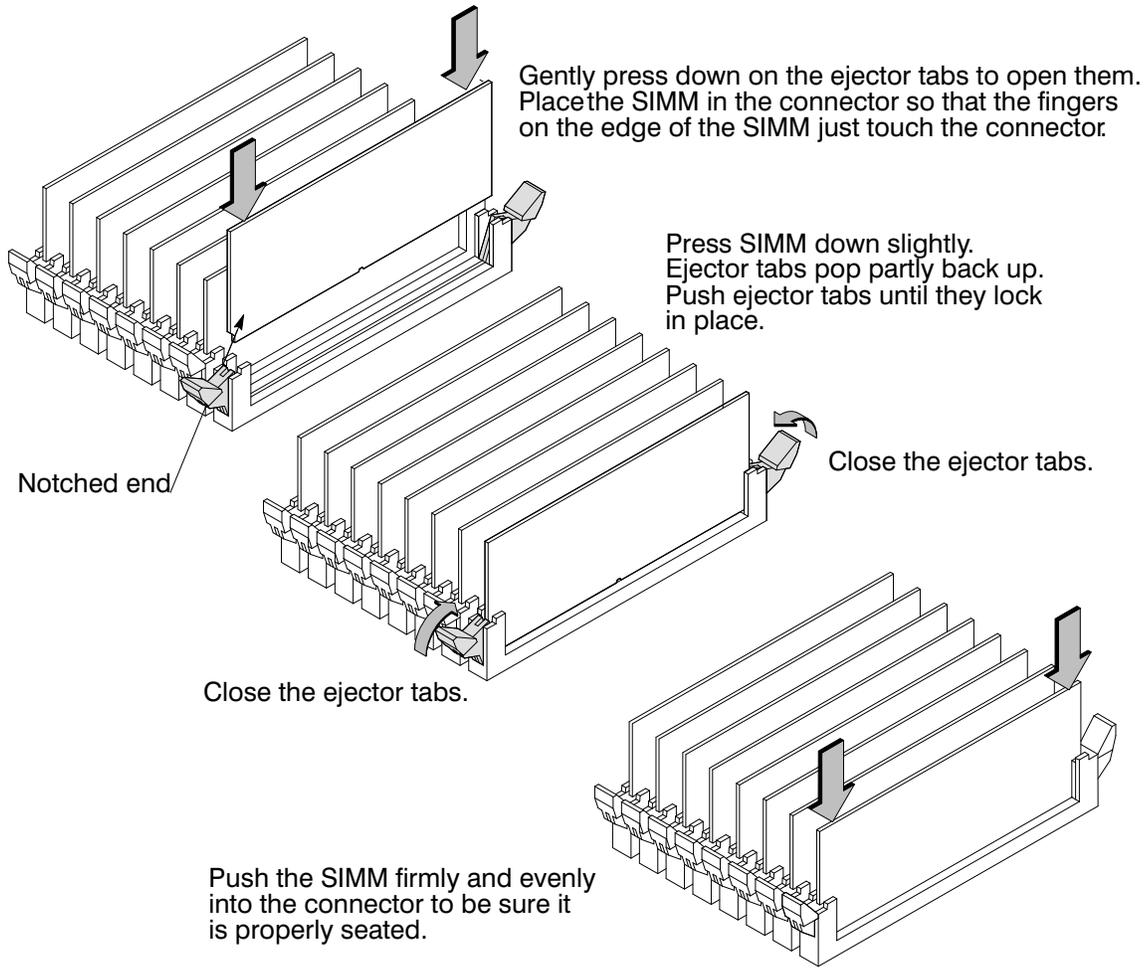

Figure A-23. Installing Memory Cards
9. Open the ejector tab by pressing down on it at the left of the connector. Refer to Figure A-23.